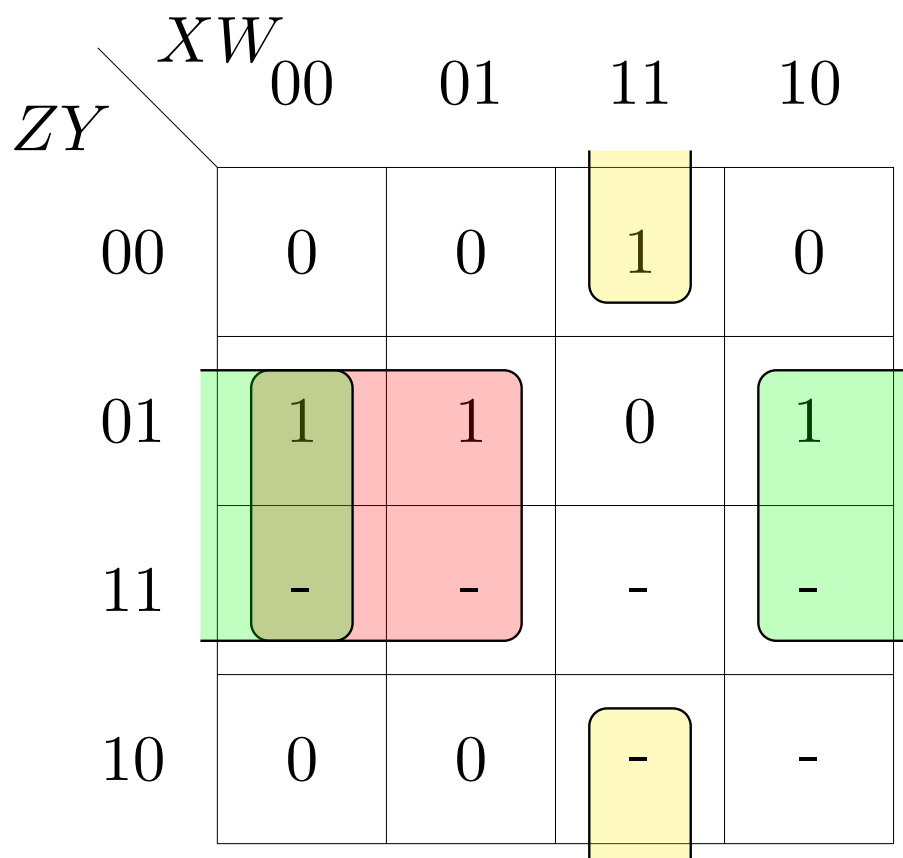

Figure 4.7: K-map for C with don't cares
4. The revised K-map for C is available in Fig 4.7 Show that